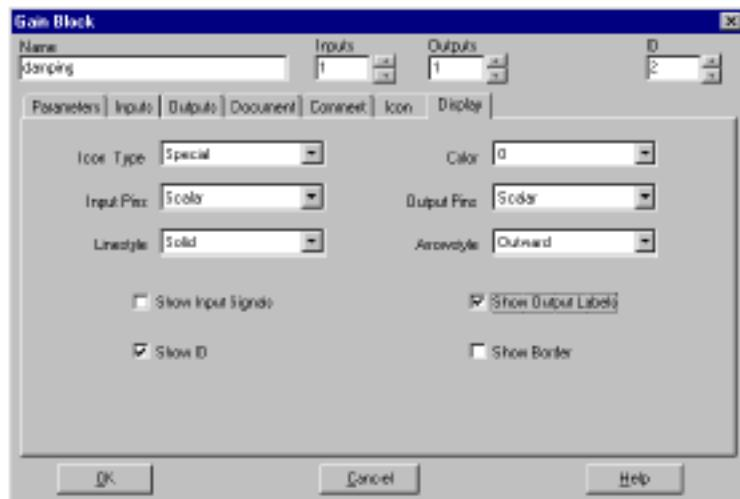

Figure 4-19. Gain Block (Display Tab)
- Click the **Display** tab (see Figure 4-19), and enable the **Show Output Labels** check box.